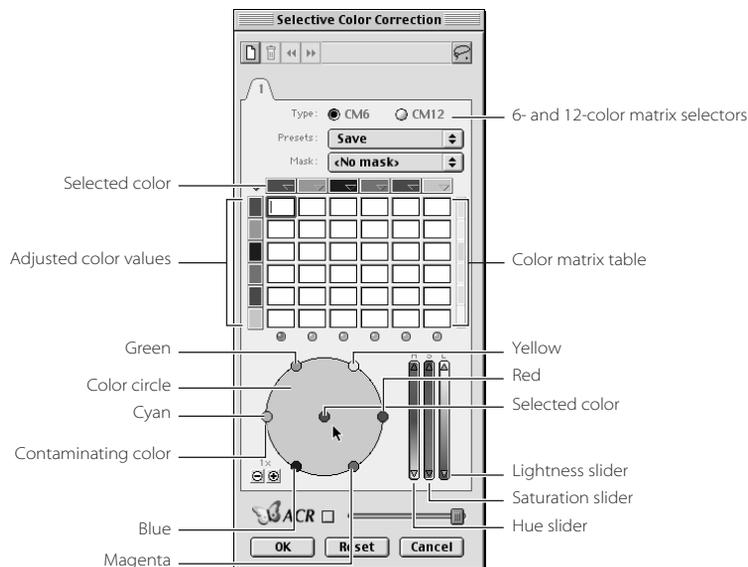

Figure 6.16
4. Click on the left side of the front of the barn (see Figure 6.16).
To alter the color balance from neutral, click any of the MidPip data window fields and type in whatever value you prefer. For instance, I added a bit of a red color cast to the area around point number 1 by adjusting the red value up from 76 to 80, which is evident in Figure 6.16.